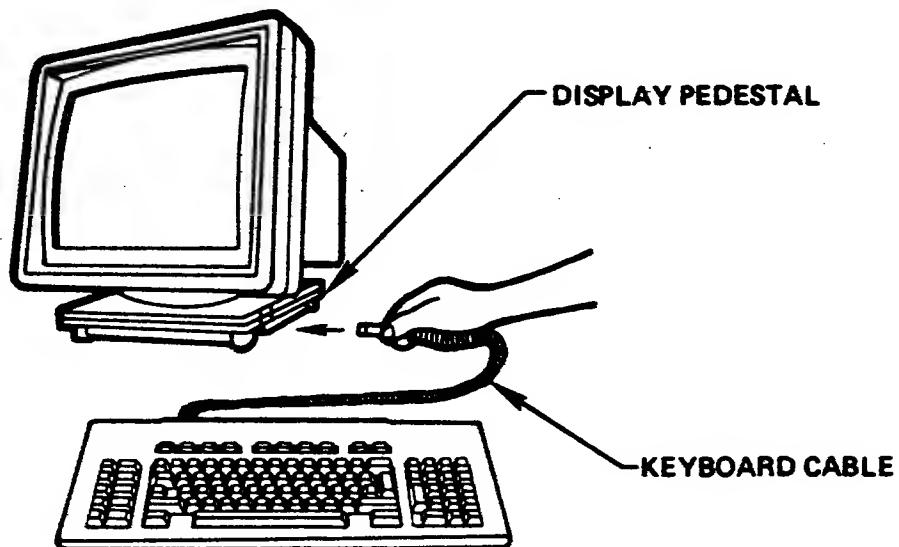

Figure 2-9. Keyboard and Display
- 1.** Attach the keyboard cable to the display at the right side of the display pedestal (Figure 2-9). The notch of the large connector should be on the top when the keyboard cable is connected to the display.